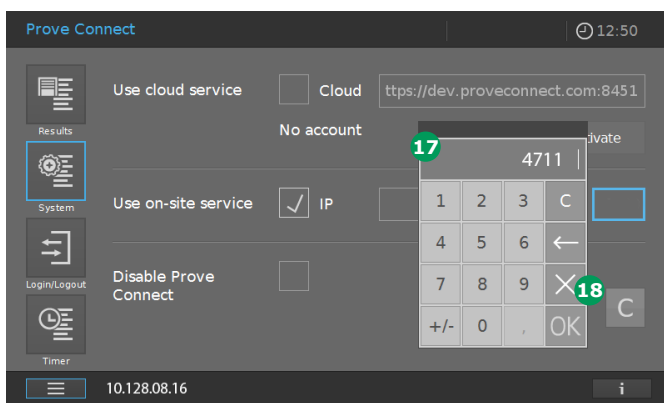

Figure 32 - Screen of Spectroquant® Prove / Prove plus (Figure 28) with entered Port of the PC on which Prove Connect runs
11. Click in the field: Port (text box with blue border). The entry field appears 17 (Figure 32).
13. Confirm the entered Port with "OK" 18 (Figure 32).